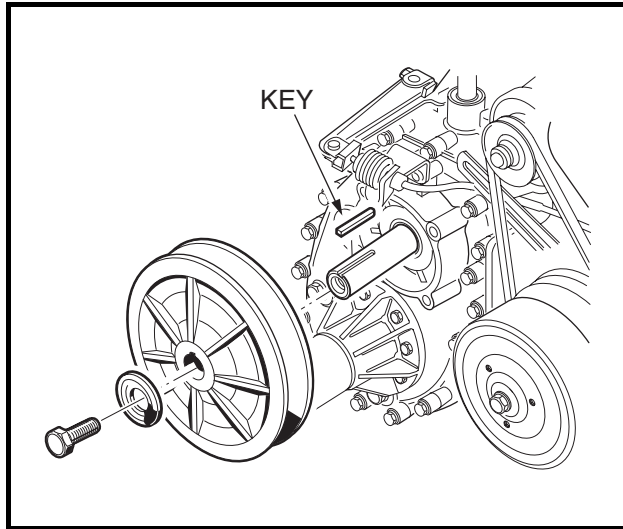

Figure 16-47 Driven Clutch
11. Install the key onto the input shaft (**Figure 16-47, Page 16-19**).
12. Position the driven clutch on the transaxle input shaft and install the washer (yellow side facing out) and mounting bolt and tighten to 14 ft-lb (19.0 N·m) (**Figure 16-47, Page 16-19**).